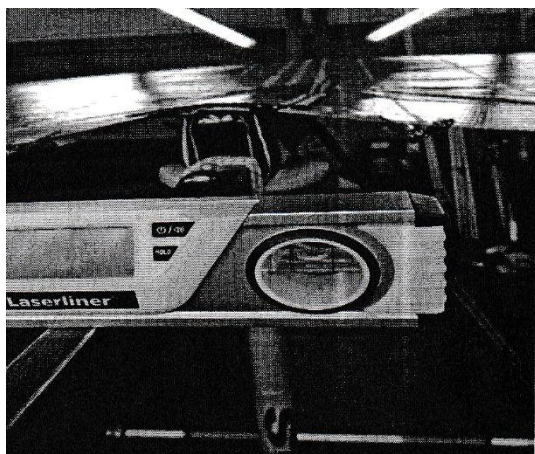

Figure 55
1. Fully set up the wing on a reasonably level surface and rest the keel tube on a support with the keel tube horizontal. Attach the keel extension to the keel tube. Using the angle meter, as shown on fig. 55 and fig. 56, check that the keel extension is set to horizontal position. Maintain the keel tube angle during further measurements. Set the angle meter to zero (fig.56).